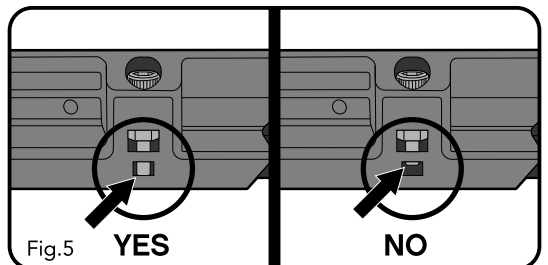

Fig.5
- Make sure the bolt is seated in one of the notches in the kickstand [fig.5]